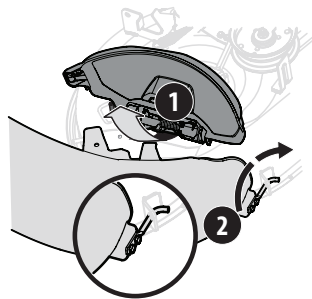

Figure 20
- With the tractor's mulch plug raised up and held open (1), install the boot (731-20072) by placing the boot mounting rod into the hole provided in either your deck wheel bracket or boot mounting tab (2), as shown in Figure 20.
- Release the mulch plug, making sure to rest it on the boot bracket previously installed on the boot. See Figure 20.